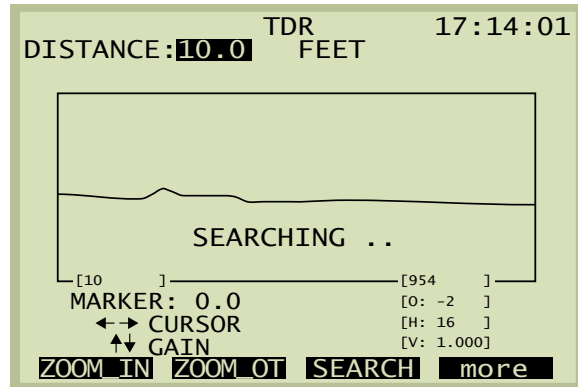

Figure 9 TDR screen, search function
6. Press the SEARCH (F3) key. The SunSet now begins to look for the first fault. The screen shows SEARCHING while it scans the line. Refer to Figure 9.